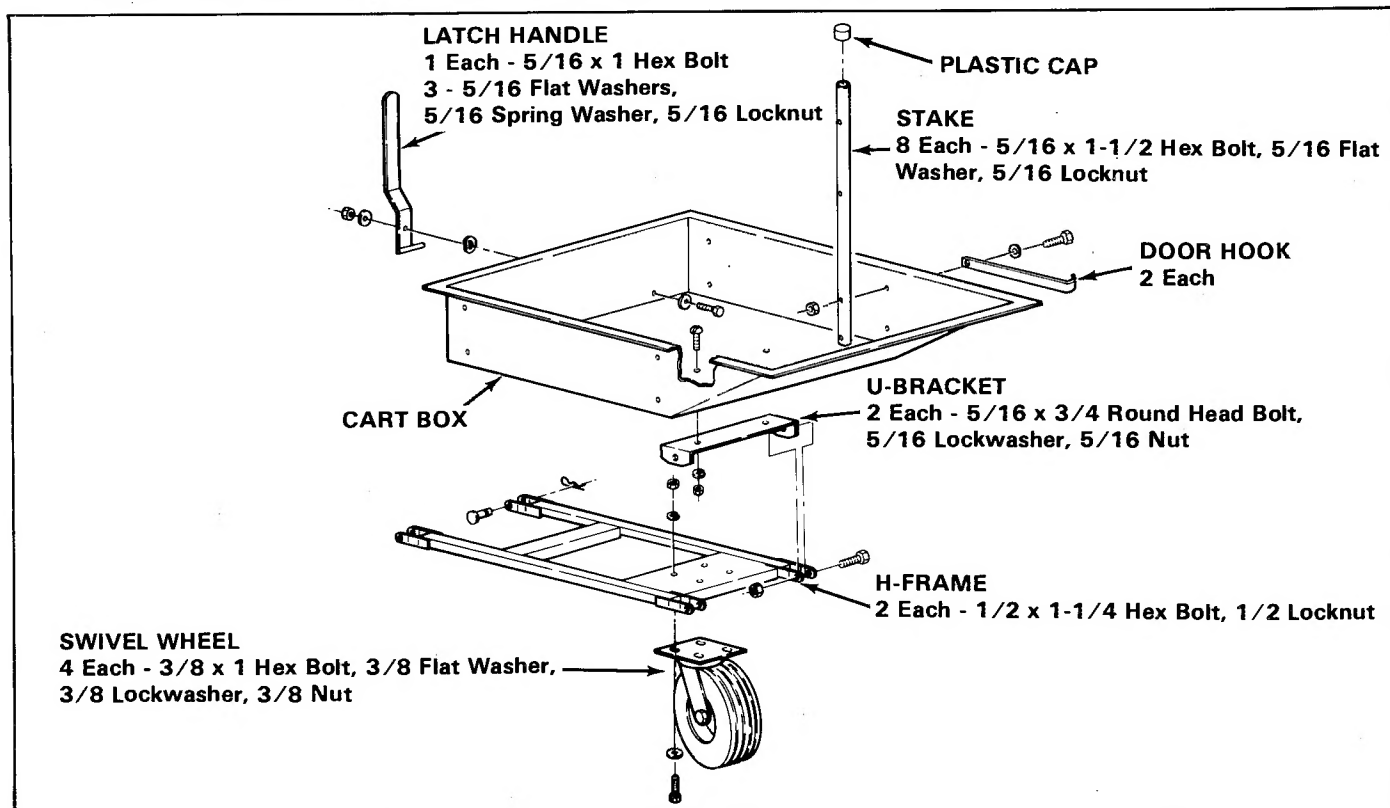

Figure 10.
1. Remove all parts from inside the cart's box. Open the bag of parts and sort the fasteners into groups for easier assembly of the cart (figure 10).